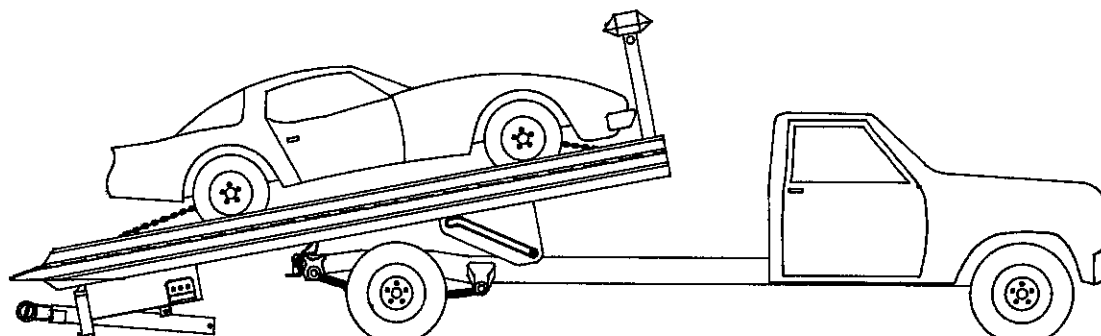

Figure 6-2.5
- 6-2.5 Tilt the bed up until the rear bumper firmly contacts the ground. (See fig. 6-2.5)